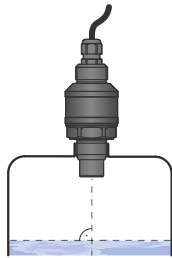

Fig. 1b: Recommended installation of the CPC-U-54 level meter in the tank using the bottom thread
- The level meter is installed in a **vertical position** on the console or into the upper lid of the tank or reservoir using a lug, a fastening nut or a flange in such a way that the axis of the device is perpendicular to the level of the measured liquid (Fig. 1b). The level meter shall be installed in places with no risk of mechanical damage to the front of the sensor.